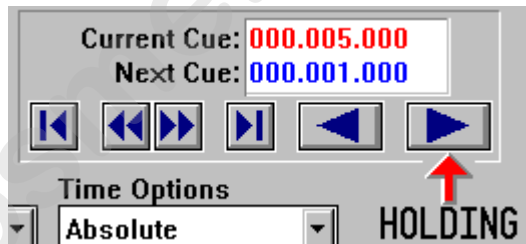

Figure 8.80. Holding Function
2. Start the CueList using the play button. When the list comes to a cue that is held, **HOLDING** will appear in the Cue Information box below the Cue Advance button. Refer to Figure 8.80.